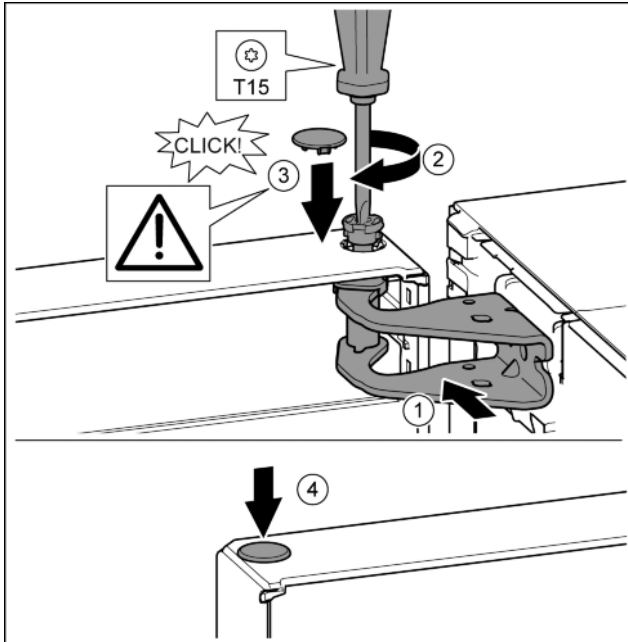

Fig. 23
- ▶ Align the top of the door with opening in the bearing bracket. *Fig. 23 (1)*
- ▶ Insert the bolt and tighten with a T15 screwdriver. *Fig. 23 (2)*
- ▶ Fit the protective cover to protect the door: Insert the protective cover and check that it is attached to the door. If not, insert the bolt fully. *Fig. 23 (3)*
- ▶ Insert the plugs. *Fig. 23 (4)*